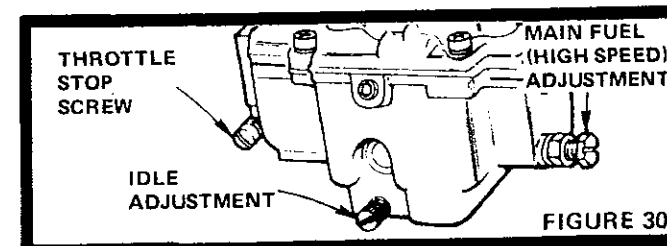

FIGURE 30
- Main Fuel (High Speed) Screw (Fig. 30) should not require adjustment. If resetting is necessary, turn clockwise, closing finger tight ONLY, then turn counterclockwise 1 - 1/2 to 1 - 3/4 turns.
- Turn Idle Adjusting Needle (Fig. 30) clockwise, closing finger tight ONLY, and then turn counterclockwise 1 to 1 - 1/4 turns.
- Throttle Stop Screw (Fig. 30) should not require adjustment. If resetting is necessary, set to obtain the slowest engine speed that will allow smooth acceleration.